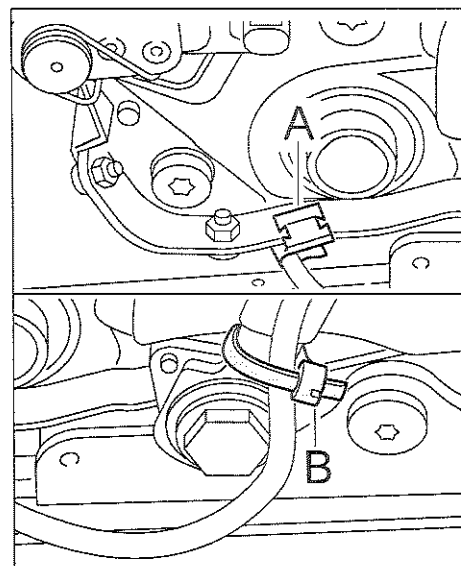

Figure 7
- 3.1 Remove retaining clip ⇒ *Figure 7 -A-* on belt buckle line.
- 3.2 Secure belt buckle line at lower end of belt buckle strap with a tie-wrap ⇒ *Figure 7 -B-*.